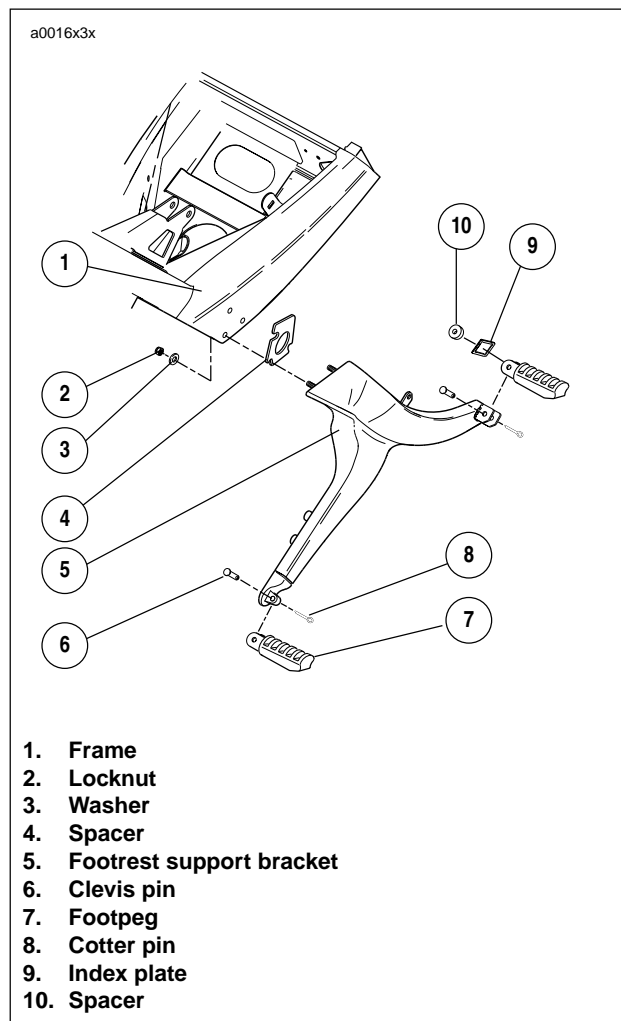

**Figure 3-9. Rear Master Cylinder and Brake Line Assembly**
See Figure 3-9. Remove rear master cylinder before removing sprocket cover.
23. See Figure 3-9. Disconnect screws (1,3,6) at brake fluid reservoir, master cylinder and brake line bracket.